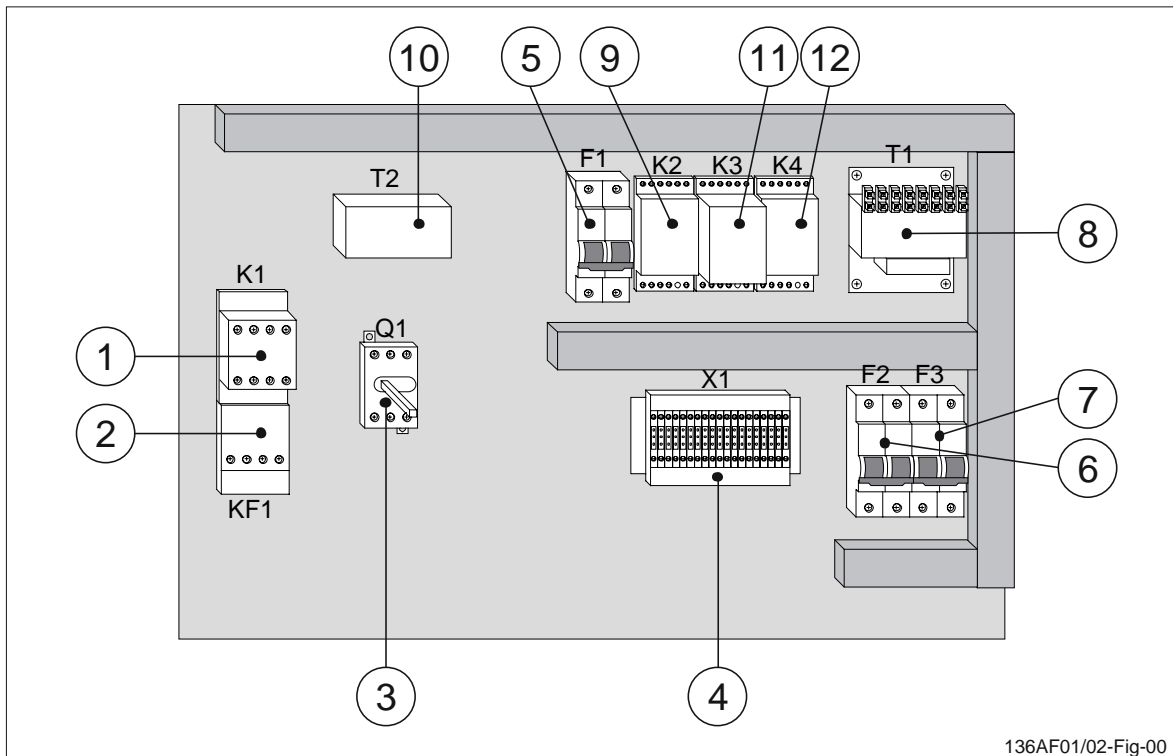

Figure 2 Internal equipment of pump motor starter P1 or P2.
5. Disconnect the overcurrent relay KF1 (see position 2 in figure 2) from contactor
K1 (see position 1 in figure 2).